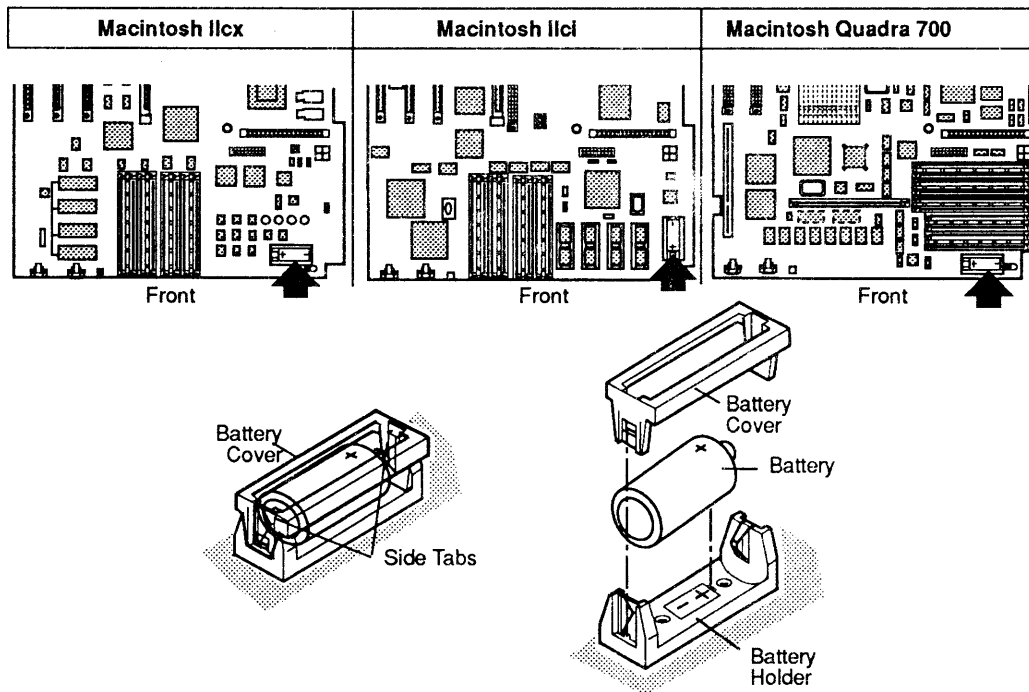

Figure 5-1 Battery Holder and Battery
2. Locate the battery holder and battery on the front of the logic board (**Figure 5-1**).
1. Insert the new battery with the positive side of the battery in the side of the holder marked positive (refer to **Figure 5-1**).
CAUTION: *Be sure the positive side of the battery is in the correct location (Figure 5-1). An incorrectly placed battery can damage the logic board.*